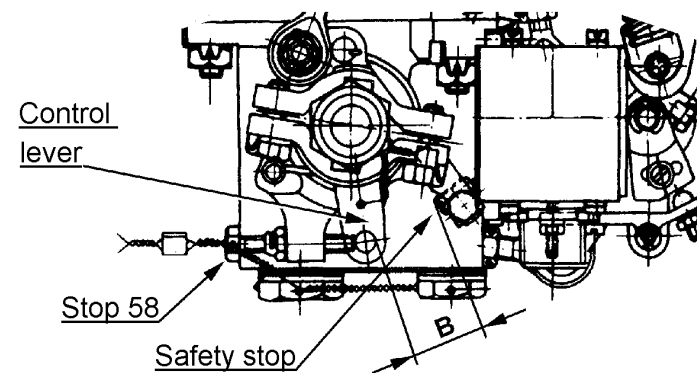

Figure 11-32 Dimension "B" check
- Measure dimension "B" for the governors according to figure 11-32 and compare with values in the governor documentation. Before the measurement, verify real contact at stop 58.